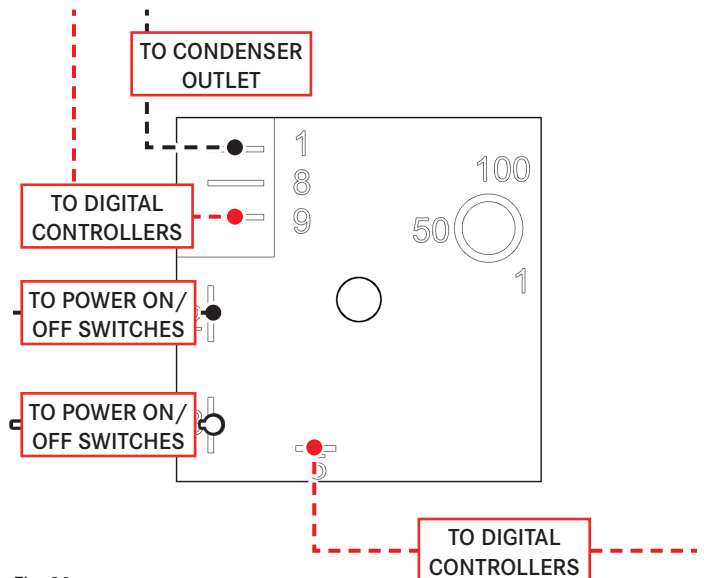

Fig. 30
2. Locate timer on back of controller frame. Disconnect wiring to timer (Fig. 30).